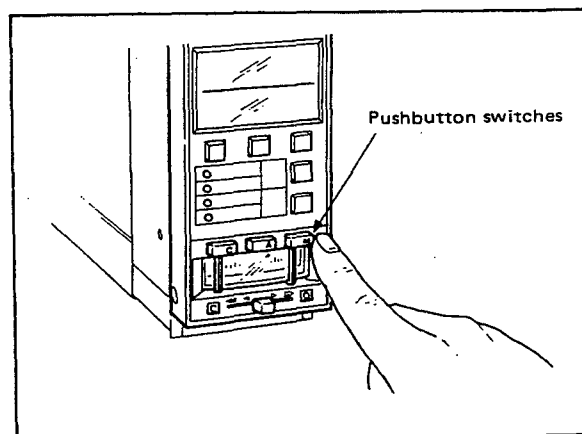

Figure 5-4-1. Transfer between Control Modes.
The controller mode can be freely selected by pressing the **[C]**, **[A]** or **[M]** pushbutton. (Figure 5-4-1)
- (1) Select the **M** mode switch. (The lamp inside the pushbutton lights.) (Figure 5-4-1).